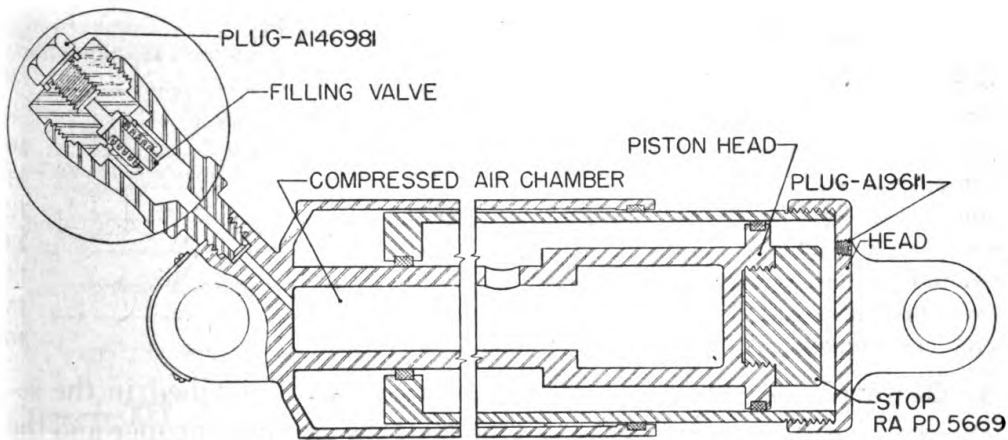

FIGURE 11.—Equilibrator.
(3) If the pressure gage indicates a loss in pressure, soap suds should be applied to all thread connections of the equilibrator to discover possible leaks at the connections. If the connections are tight and the gage still indicates loss of pressure, the grease seals are not functioning properly, and the equilibrator should be returned to an arsenal or base shop for repair.
b. To relieve accumulated air in the head.—With the gun at zero degrees, remove the plug (A19611, fig. 11) from the rear head of the equilibrator; elevate to maximum elevation and replace the plug. Be sure the plug is tight.